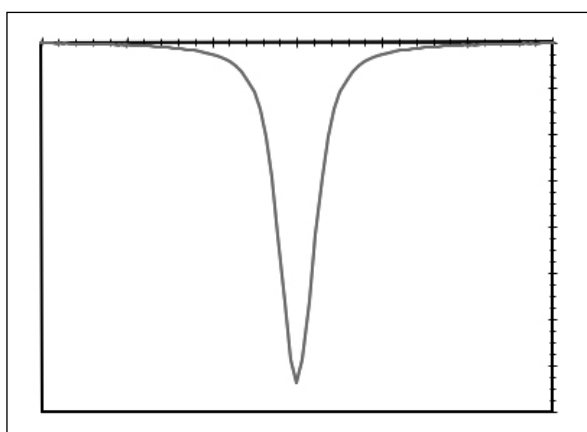

Figure 3. Processed Detector Signal
- This signal is used to quantify the light absorbed by the analyte (figure 3).